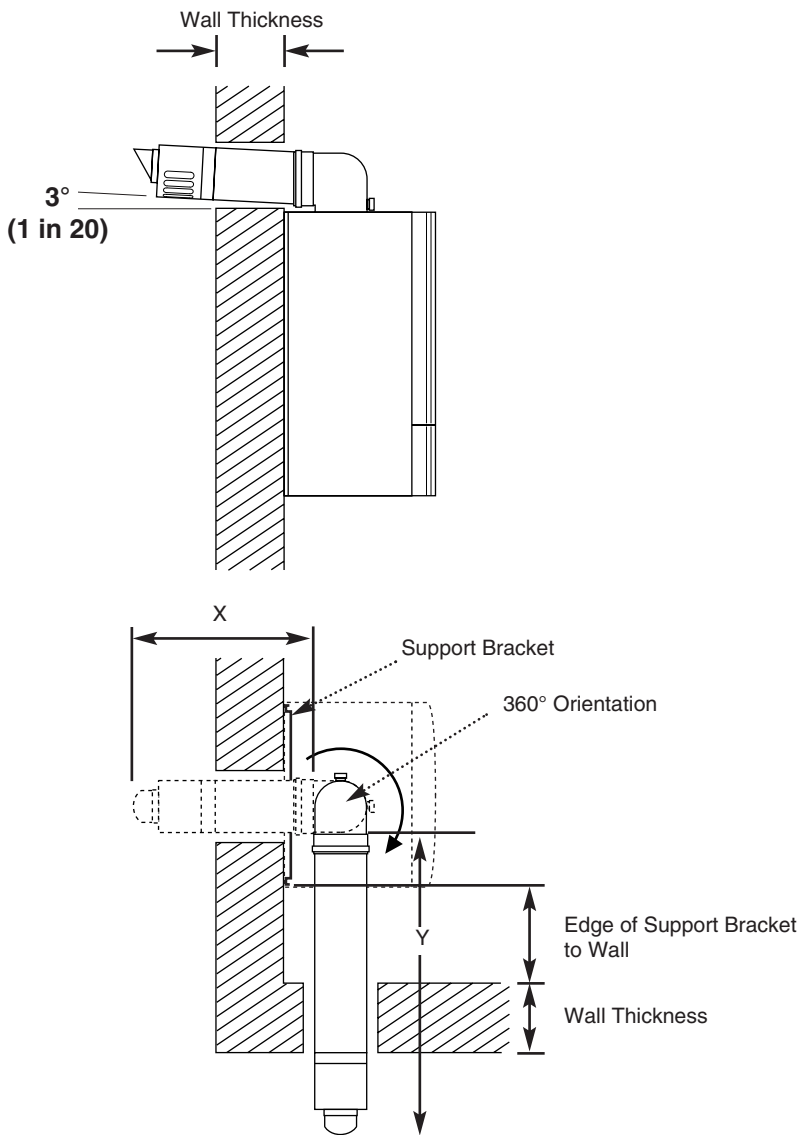
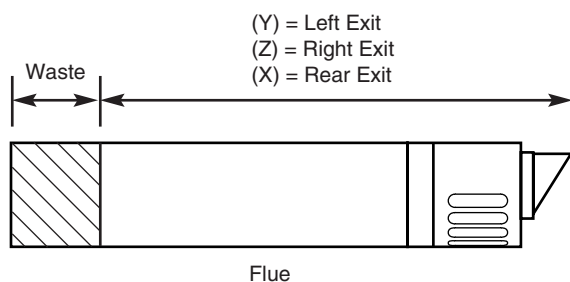

Fig. 21
Fig. 22
2. **For rear exit** - measure the wall thickness (Fig. 21) and to this dimension add 201mm. This dimension to be known as (X).
i.e. (X) = wall thickness + 201mm
3. Take the flue and mark off (X) from the terminal end as indicated in the diagram (Fig. 22).
4. **For left hand exit** - measure the distance from the edge of the support bracket to the inner face of the wall (Fig. 21) and to this dimension add the wall thickness + 268mm. This dimension to be known as (Y).
i.e. (Y) = support bracket to wall + wall thickness + 268mm
5. Take the flue and mark off (Y) from the terminal end as indicated (Fig. 22).
6. **For right hand exit** - measure the distance from the edge of the support bracket to the inner face of the wall and to this dimension add the wall thickness + 343mm. This dimension to be known as (Z).
i.e. (Z) = support bracket to wall + wall thickness + 343mm
7. Take the flue and mark off (Z) from the terminal end as indicated (Fig. 22).